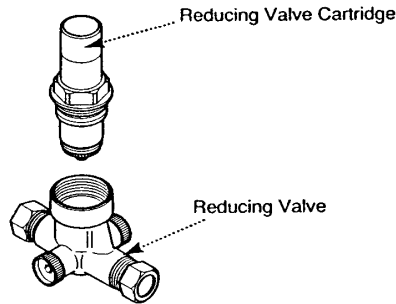

Fig. 48
21. Turn off the mains water supply. Fit a suitable hose pipe to the D.H.W. storage drain spigot, and open the valve on the spigot. Hot water must also be run from the highest draw off point in the dwelling to ensure complete draining of the domestic hot water. Unscrew the cartridge from the valve body and rinse thoroughly in clean water (Fig. 48).